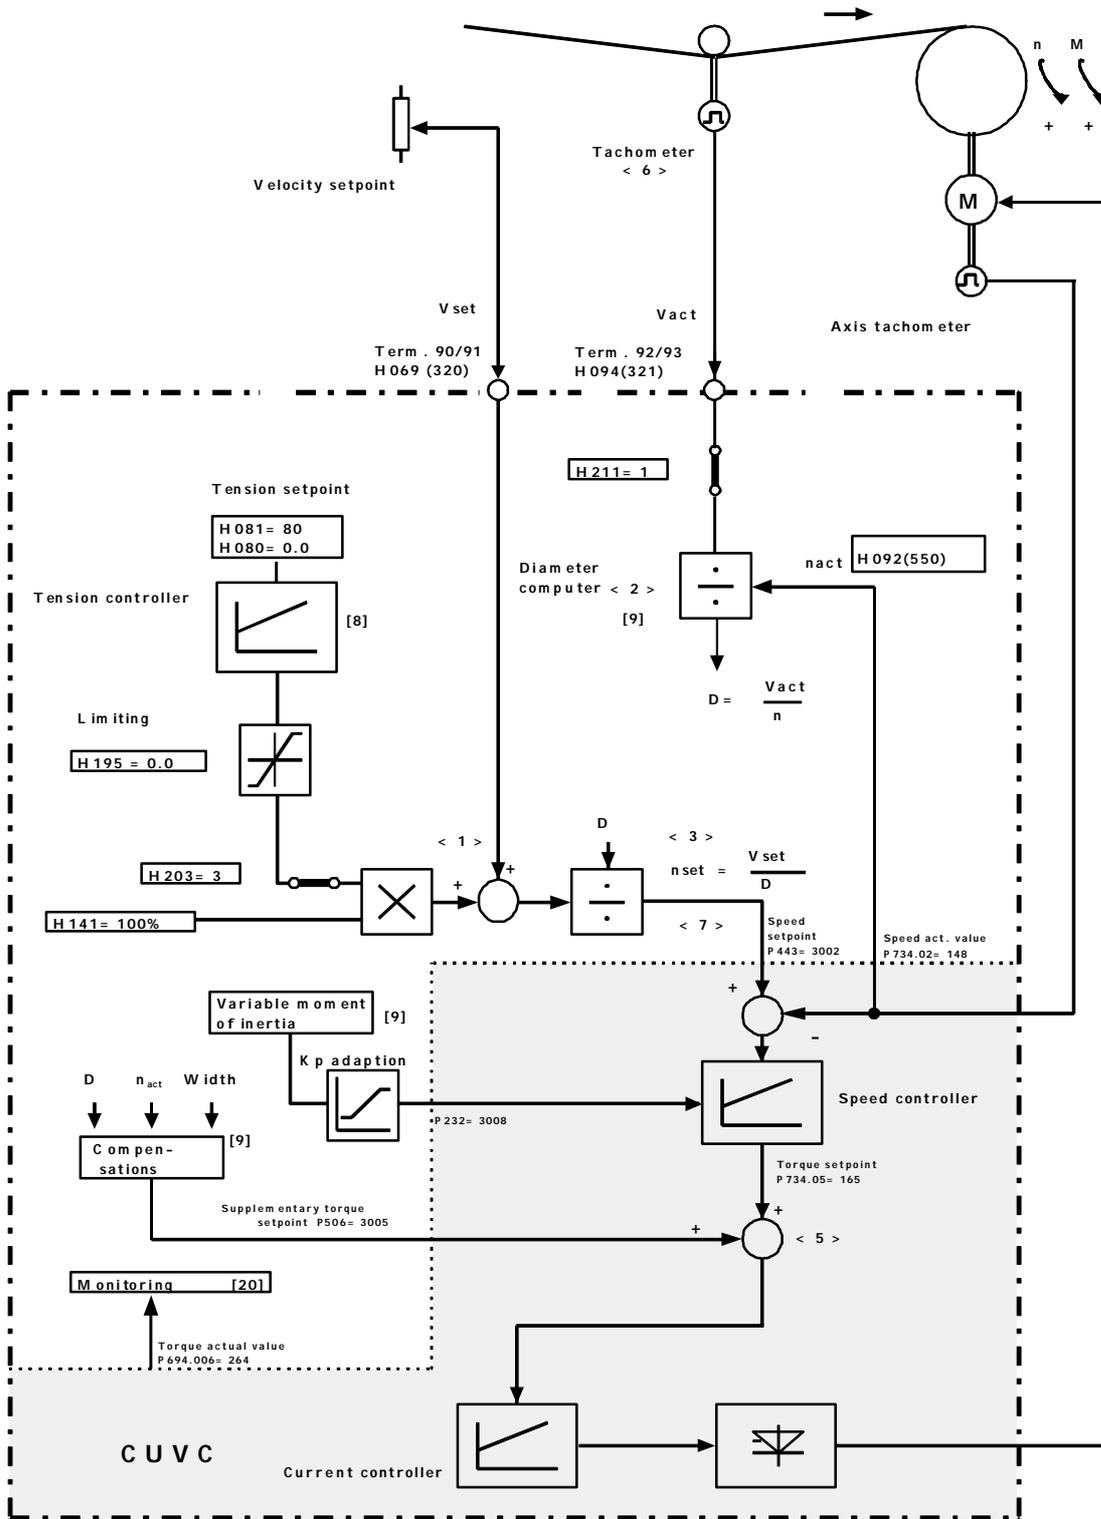

Fig. 4-17 Winder with closed-loop constant v control
**Note** An example for a winder with closed-loop constant v control is shown in Fig. 4-17.